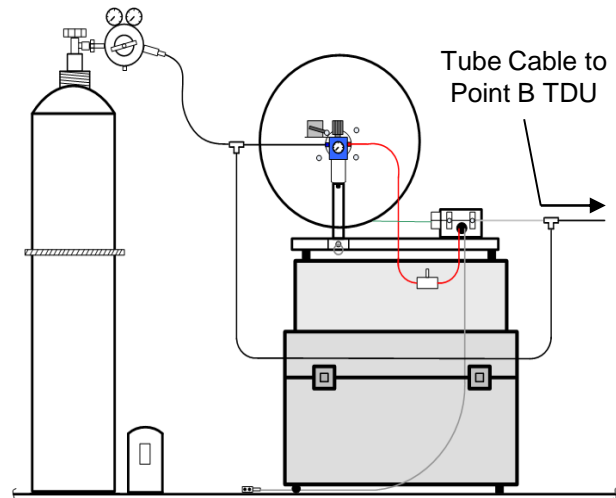

Figure 3
6.4 At Point A, set up Blowing Head #1 and fiber reel in accordance with Sumitomo Recommended Procedure SRP SP-F04-001. **See Fig. 3.**